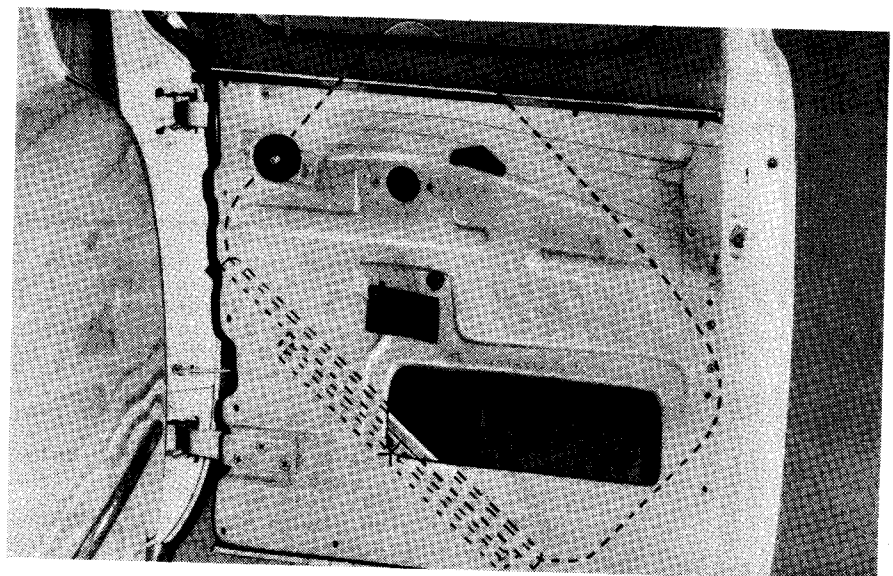

FIG. 5
15. Lift the end of the glass at the door check, keeping the other end as low as possible (see Fig. 5). As you lift and turn the glass, be sure that it is free at all times. Tip the top corner of the glass toward the door inner panel to align it with the opening, then continue to turn and lift until the glass is vertical in the opening.